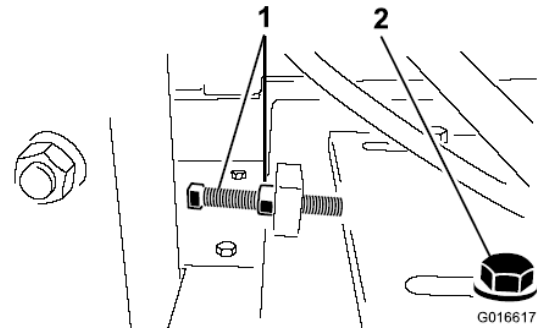

Figure 29
3. Loosen four (4) engine plate mounting bolts and four (4) bolts securing the rear of the belt guard to the engine.
4. Loosen the belt tension bolt and jam nut, slide the engine toward the flywheel housing to loosen belt (Figure 29).